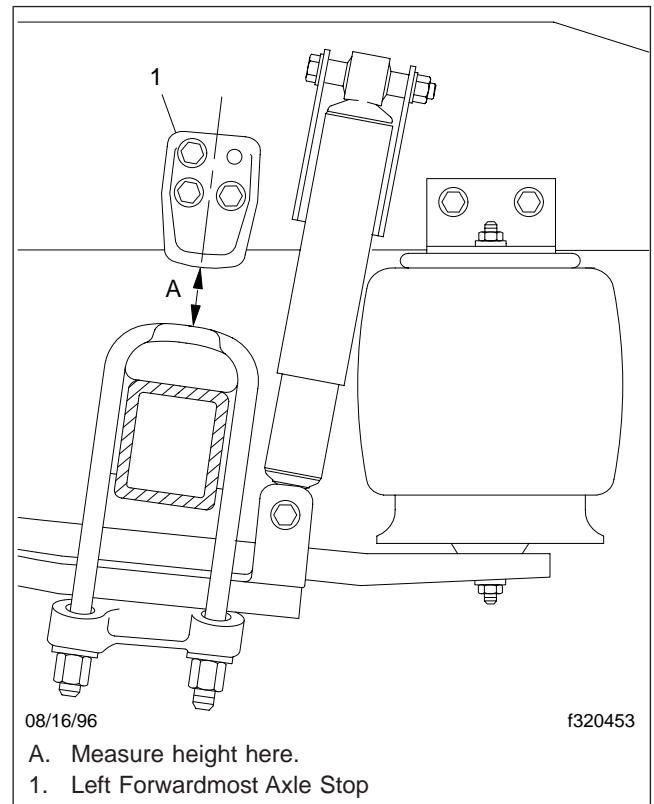

Fig. 10, AirLiner Axle Stop Measurement
5. On single-drive rear axle configurations, measure the distance from the bottom of the left axle stop to the top of the U-bolt pad. On tandem (dual-drive) rear axle configurations, measure the distance from the bottom of the forwardmost left axle stop to the top of the axle U-bolt pad. See Fig. 10, Ref. A. The correct distance for single and dual-drive rear axles is between 2-3/8 inches and 2-7/8 inches (60 to 73 mm).